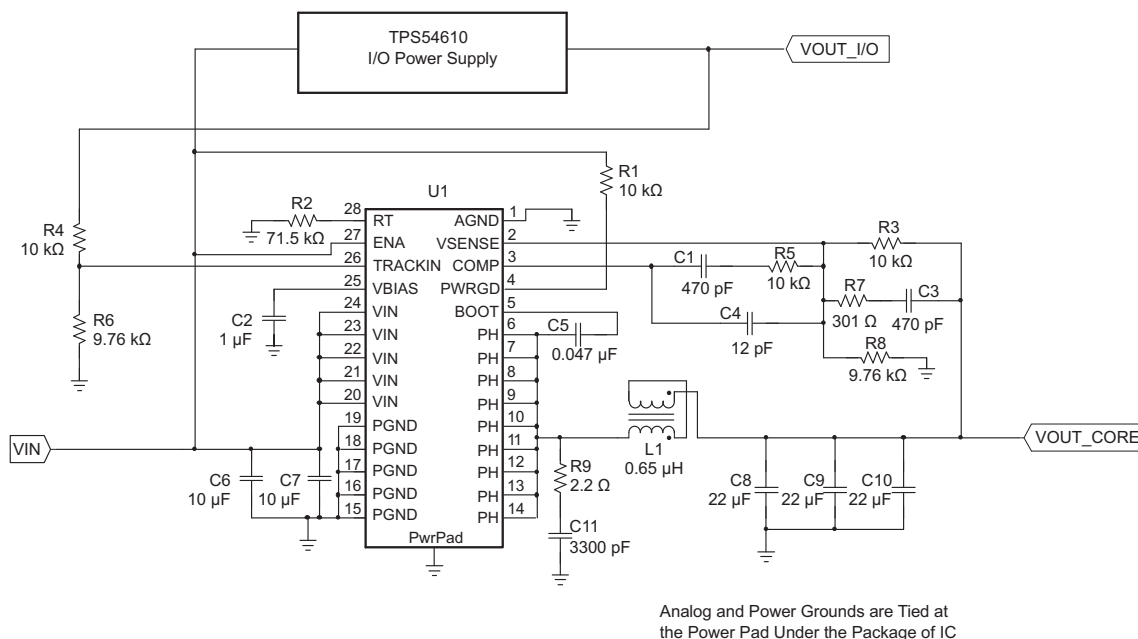

Figure 10. Application Circuit
- (1) Specified by design from -40°C to 85°C .
- (2) Static resistive loads only
- (3) Specified by the circuit used in Figure 10
Figure 10 shows the schematic diagram for a typical TPS54680 application. The TPS54680 (U1) can provide greater than 6 A of output current at a nominal output voltage of 1.8 V. For proper thermal performance, the exposed thermal PowerPAD underneath the integrated circuit package must be soldered to the printed-circuit board. To provide power up tracking, the enable of the I/O supply should be used. If the I/O enable is not used to power up, then devices with similar undervoltage lockout thresholds need to be implemented to ensure power up tracking. To ensure power down tracking, the enable pin should be used.